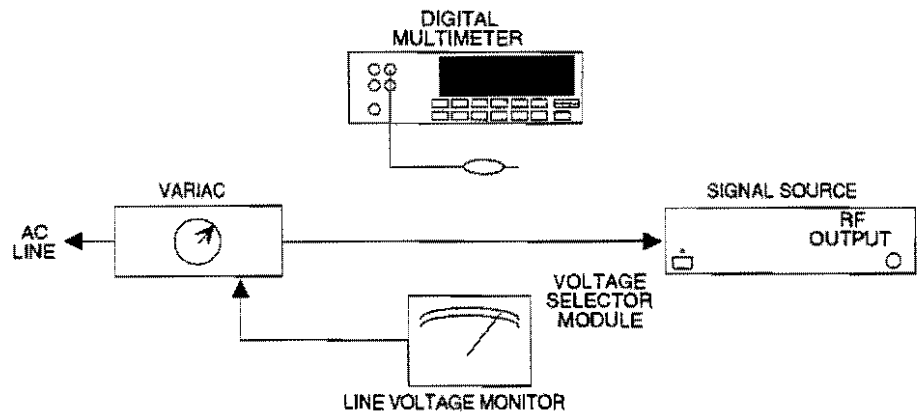

Figure 10-22. Test Equipment Setup for Power Supply Adjustments
Step 2. Connect the test equipment as shown in Figure 10-22.
- Step 1.** Connect the test equipment as was shown in Figure 10-22.